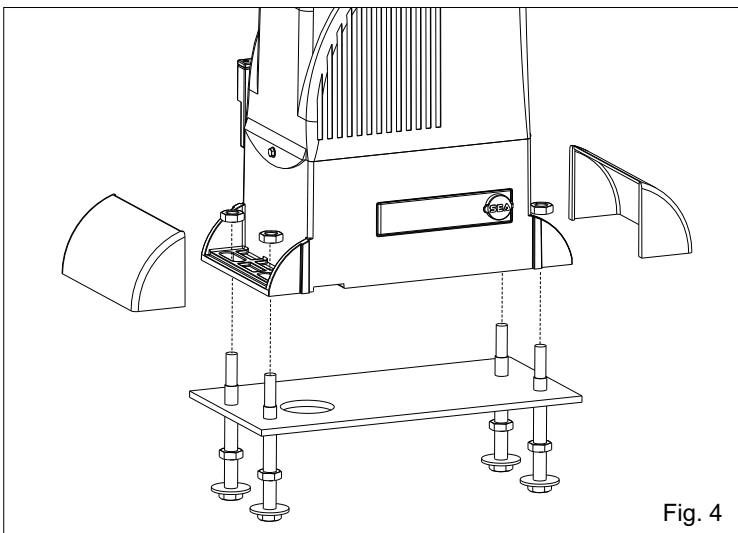

Fig. 4
4.1. Fix the motor-reducer to the foundation plate adjusting the side position and its height (Fig. 4 - Fig. 5) considering the mentioned measurements in Fig. 2.